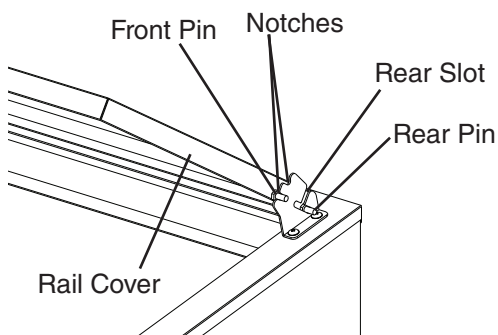

Fig. 4
- 2) Insert the rail cover's rear pins into the rear slots on both brackets, then use the rail cover's front pins and the notches on the brackets to place the rail cover in the open position. You can use either set of notches. The hollow side of the rail cover should face down. See Fig. 4.